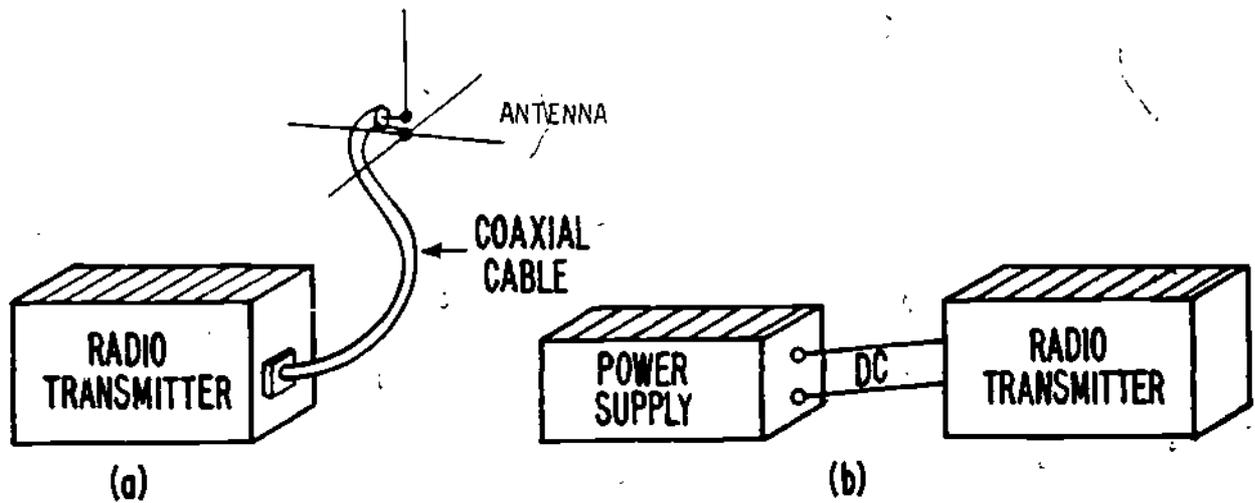

Figure 1
1. Many times in your electronics career you will have to test a piece of equipment without having it connected to its normal load device. Figure 1 shows two common situations in which this happens.
In Figure 1(a), a radio transmitter is shown connected to its normal load which is an antenna. In order to test the transmitter, you would need to "key" it (make it transmit). However, when you key the transmitter, radio